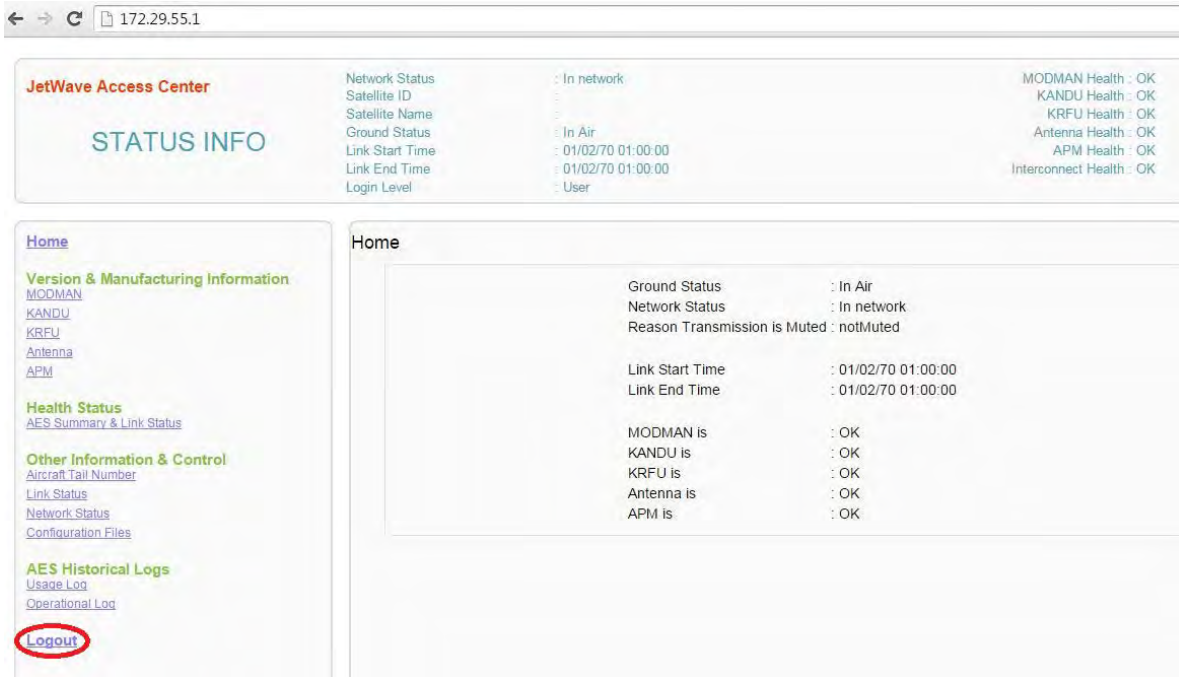

Figure 3-19. JetWave™ Logout Page
- (7) User may press Log out button to log out. Upon logging off, log in page will be presented by default. Figure 3-19 shows the log out page.